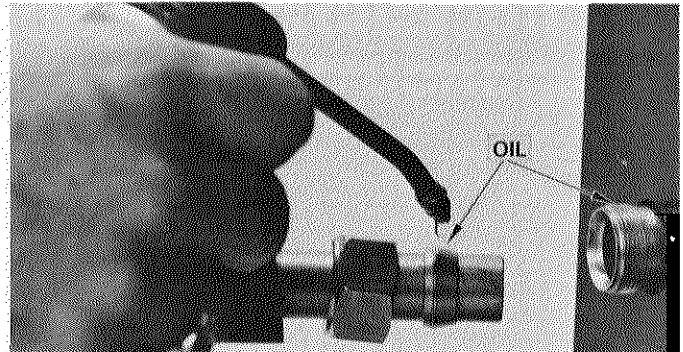

FIGURE 5
Step 3 - Slip the nut and ferrule onto the tubing. Then apply a few drops of refrigerant oil on the ferrule and the fitting threads (Figure 5). The oil will reduce assembly torque and assist sealing.